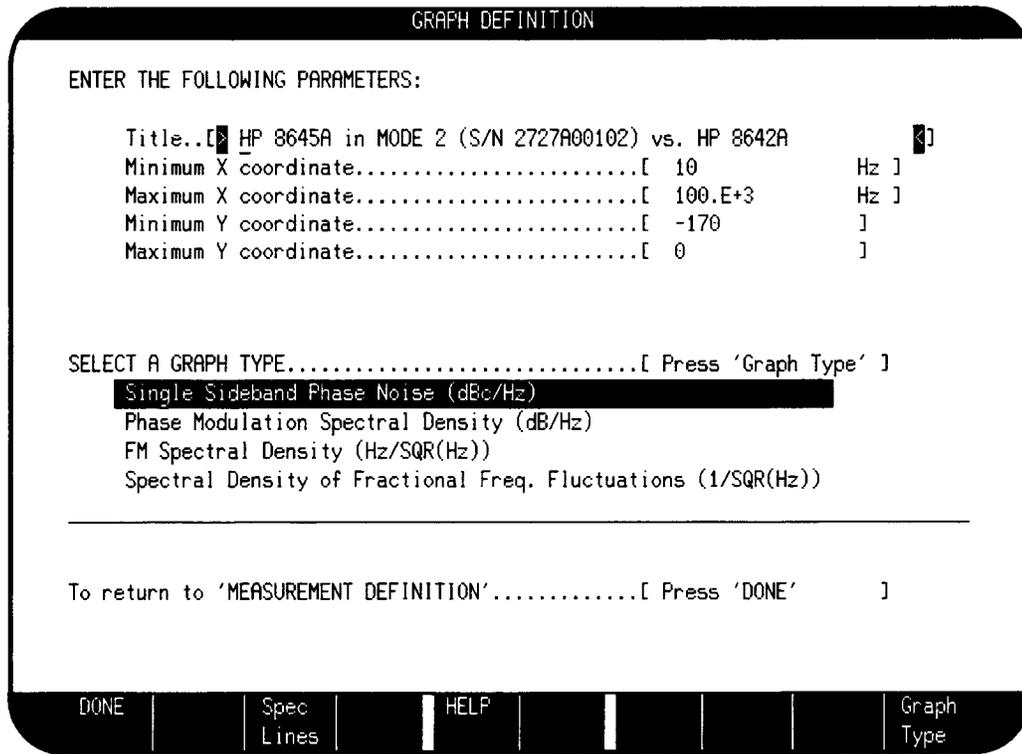

Figure 3–11. Graph Definition Menu
10. On the HP 3048A press the **Define Graph** softkey to obtain the Graph Definition menu. Set the graph parameters and graph type as shown in figure 3–11. Change the title as appropriate for your particular setup. (You may wish to include the serial number of the device under test for example. Note that date, time, and carrier frequency information will automatically appear on the measurement result graph.) When done, press the **DONE** softkey.
13. When the connect diagram appears on the display, verify that the instrument connections are properly made then press the **Proceed** softkey. (Note that even though the user’s DUT shows a connection to FM IN, in the case of the HP 8645A the connection should be to the Φ M input.) The phase noise measurement should proceed without error and the phase noise plot should appear as in figure 3–12. Ignoring spurious signals, the phase noise ($\mathcal{L}(f)$) should be less than -127 dBc at a 20 kHz offset frequency and less than -134 dBc at 100 kHz. Spurious signals for offset frequencies greater than 20 kHz should be down more than 100 dBc.